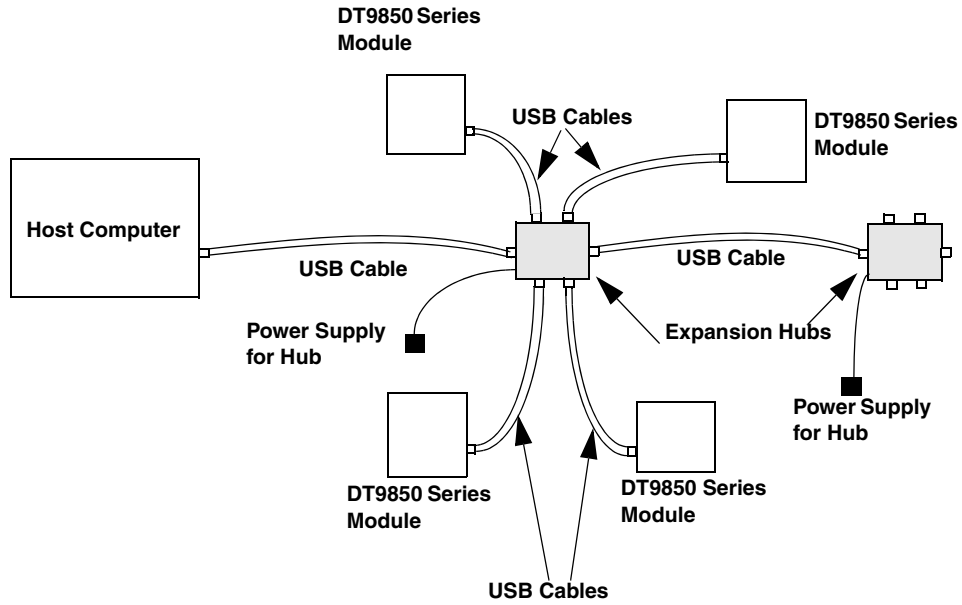

Figure 4: Attaching Multiple Modules Using Expansion Hubs
5. Repeat these steps until you have attached the number of expansion hubs and modules that you require. Refer to Figure 4.